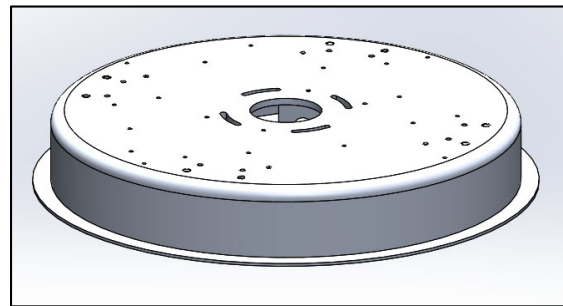

FIG. 4 - CANOPY
3. CANOPY WITH DRIVERS INSTALLED (as shown in FIG. 4)